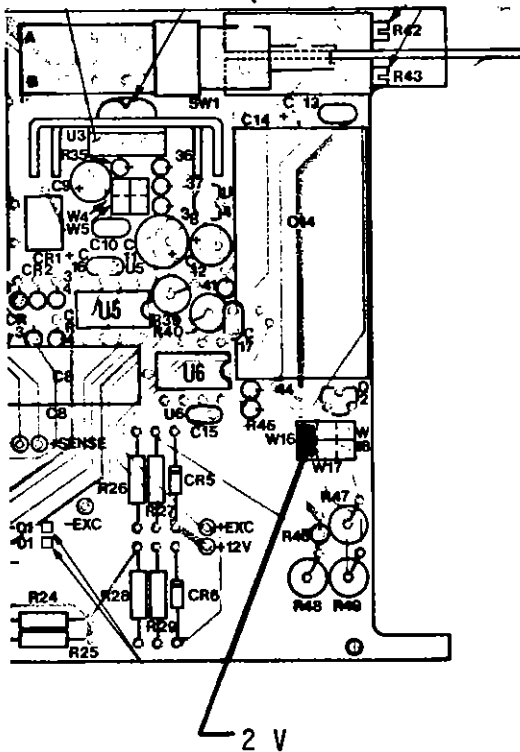

Figure 6
2.4.3 Referring to Figure 6, install W16 if the host DPVM is a 204B to obtain a 2 V reference (reference Section 1.2.4).